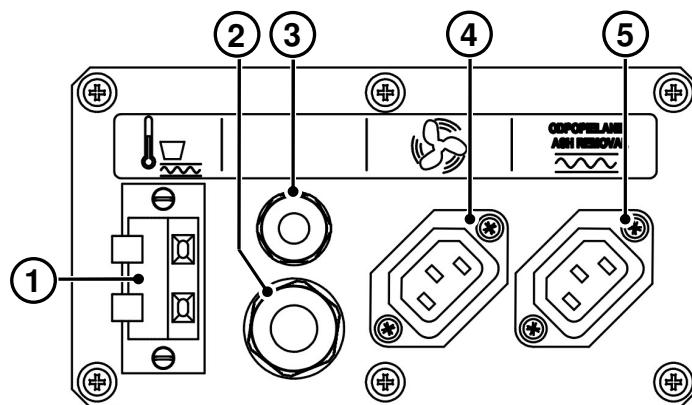
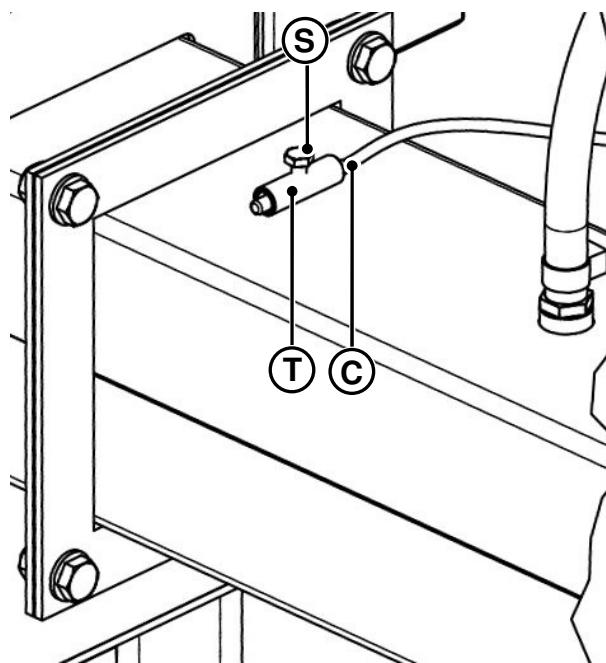

Fig. 2.5. Socket panel - rear of the boiler
Fig. 2.9. FUEL FEEDER TEMPERATURE SENSOR INSTALLATION
The power cable is supposed to be connected to the socket (4, Fig. 2.5) at the back of the boiler.
The ash removal engine is connected to socket 5 (fig. 2.5).
The measuring sensor (C, Fig. 2.9) should be installed into the socket (T) and fastened with a screw (S). **In order not to damage the metal casing of the sensor, tighten the screw with your hands.** Connect the sensor to the terminal at the back of the boiler (1, Fig. 2.5).